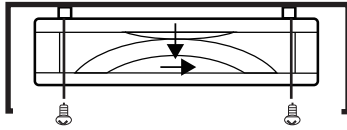

Figure 1
1. Please follow the figure 1 to properly installed the fan.